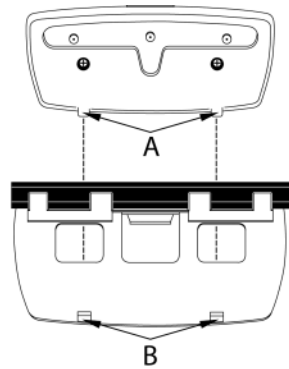

FIGURE 5
1. Attach Squeegee or Large Utility Brush to Utility Attachment Head by inserting tabs on bottom of Utility Attachment Head (FIGURE 5-A) into slots on bottom of Squeegee or Large Utility Brush (FIGURE 5-B).